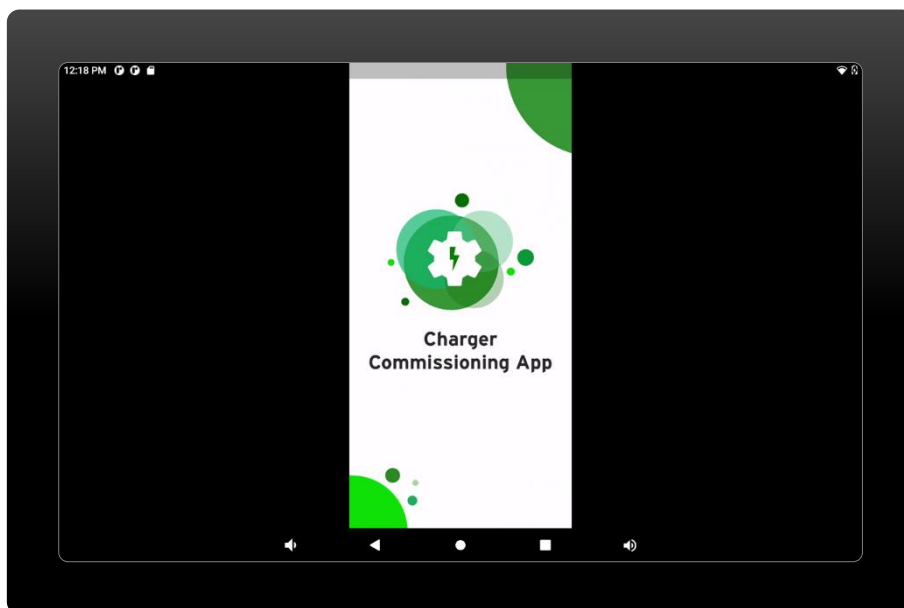

Figure 35 Booting Charger Commissioning Application.
- Wait a few minutes and it will start the commissioning procedure. (Figure 35)